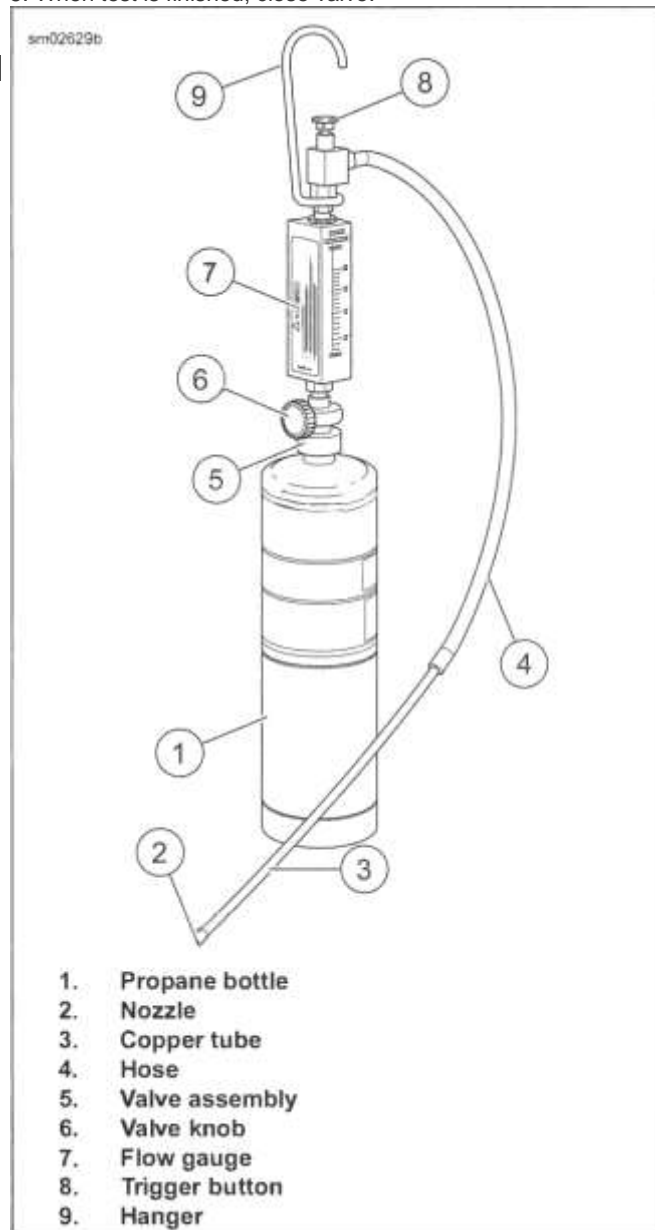

Figure 6-35. Leak Tester
1. See Figure 6-35. Make sure valve knob (6) is closed (fully clockwise).
2. Install valve assembly (5) onto propane bottle (1).
1. See Figure 6-35. Press and hold trigger button (8).
2. Slowly open valve knob (6) until pellet in flow gauge (7) rises 5-10 SCFH on gauge.